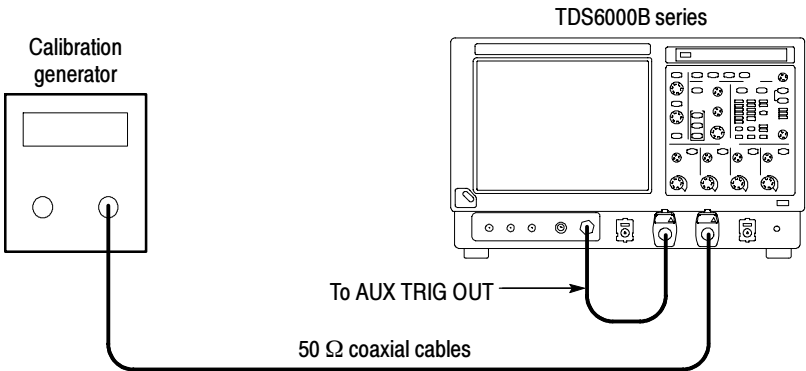

Figure 4-21: Initial test hookup
- a.** *Hook up test-signal source 1 (See Figure 4-21):*